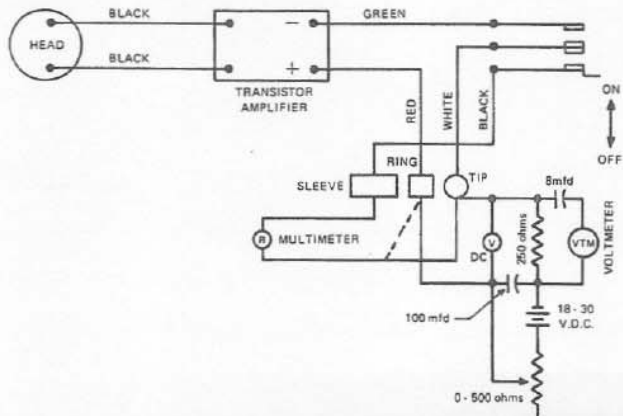
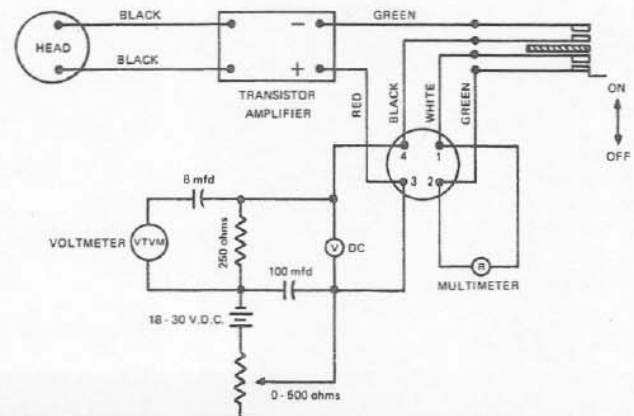

Figure 3 - Test Set-up (3 wire connection)
Figure 4 - Test Set-up (4 wire connection)
- 11. Check of Microphone Output.** The best procedure for testing the microphone is to compare its output with one known to be operating properly, using the test set-up shown in Figure 3, or Figure 4. Check the output voltage as follows: